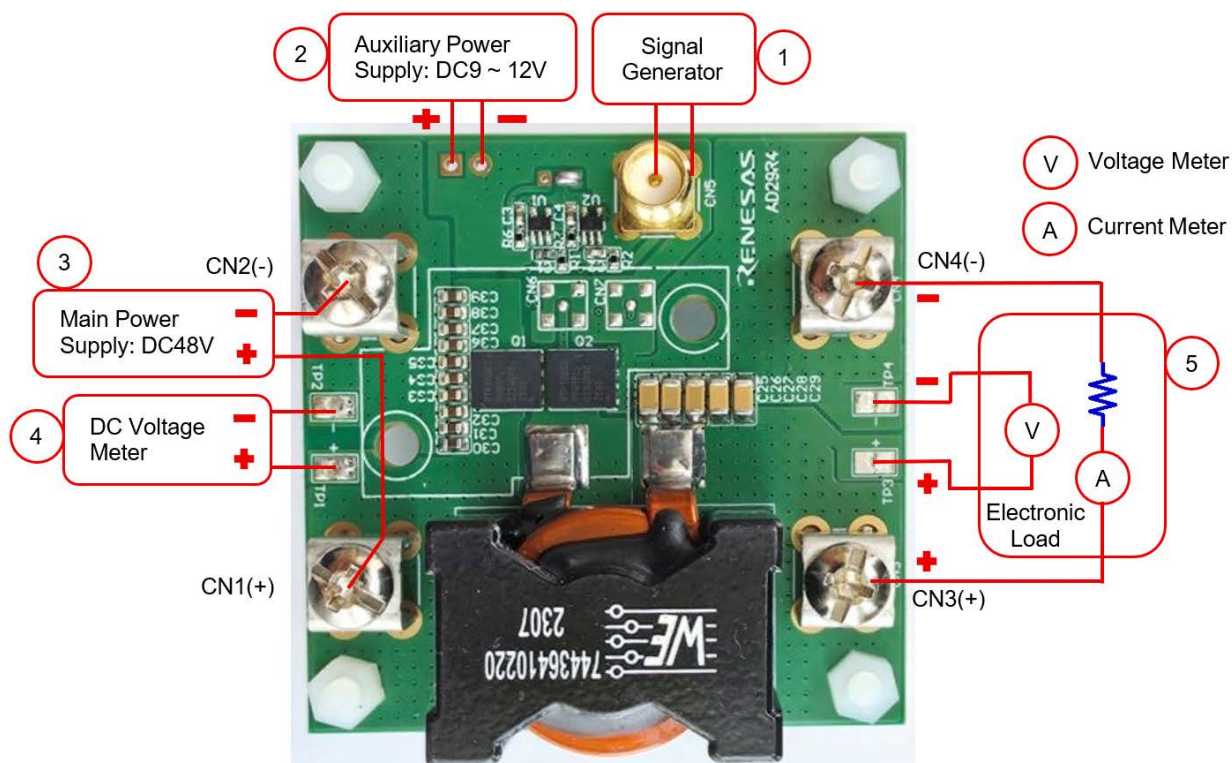

Figure 13. Setup Key
2. Connect a signal generator to SMA-KE connector CN5 as shown in item 1 of Figure 13.
3. Connect a DC9~12V power supply with a current limit of 0.5A to terminal J2 as shown in item 2.
4. Connect a DC48V power supply with a current limit of 9A to connectors CN1(+) and CN2(-) as shown in item 3.
5. Connect a DC voltage meter to TP1(+) and TP2(-) to measure input voltage as shown in item 4.
6. Connect an electronic load to connectors CN3(+) and CN4(-) for output load current measurement and TP3(+) and TP4(-) for output voltage measurement as shown in item 5.